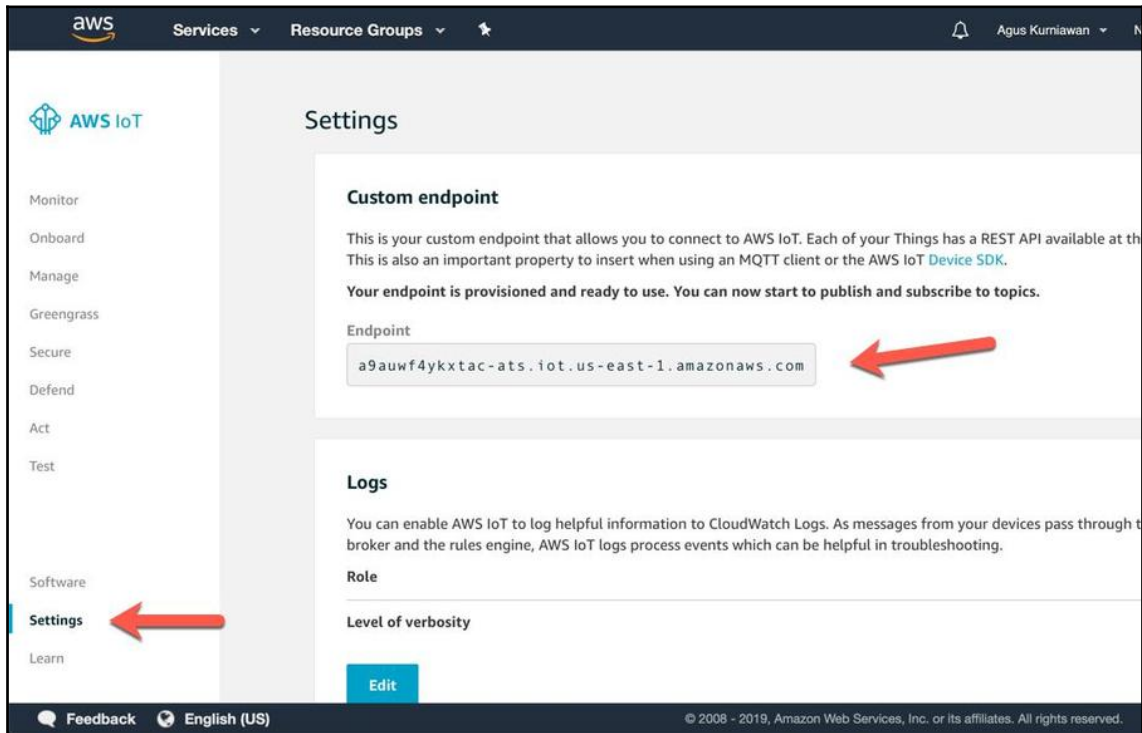

Figure 10.15: Getting the AWS IoT server endpoint name
17. You will now find your AWS IoT endpoint on the **AWS IoT** console. You will find it in the **Settings** menu, as shown in *Figure 10.15*: